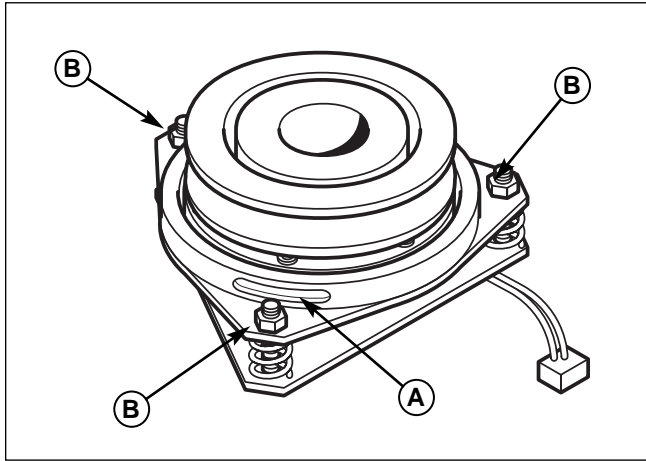

Figure 38. PTO Clutch Adjustment
2. See Figure 38. Note the position of the 3 adjustment windows (A) in the side of the brake plate and the nylock adjustment nuts (B).
4. Alternately tighten the adjustment nuts (B, Figure 38) until the rotor face and armature face just contacts the gauge.
6. Check the mower blade stopping time. The mower blades and mower drive belt should come to a complete stop within five (5) seconds after the electric PTO switch is turned off.